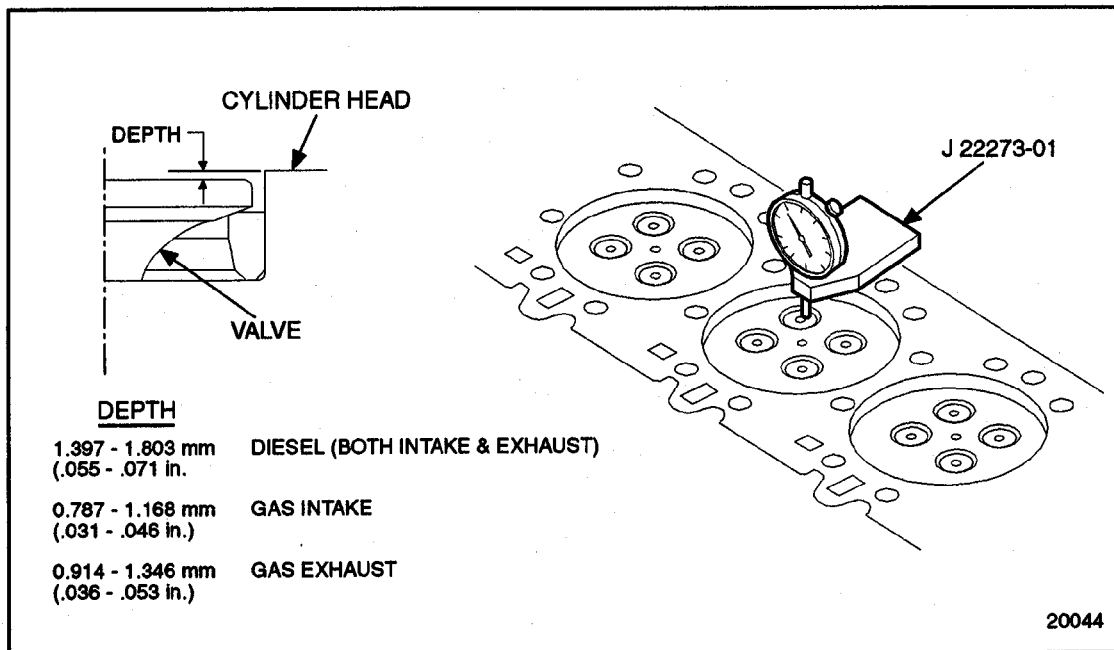

Figure 1-43 Valve Head-to-Cylinder Head Measurement
2. Place valves into proper location and check to be sure that valve heads are recessed from the firedeck surface by at least 1.4-1.8 mm (0.055 -0.071 in.). Listed in Table 1-31. See Figure 1-43. If not, reduced-thickness valve seat inserts must be installed. Refer to section 1.4.6.